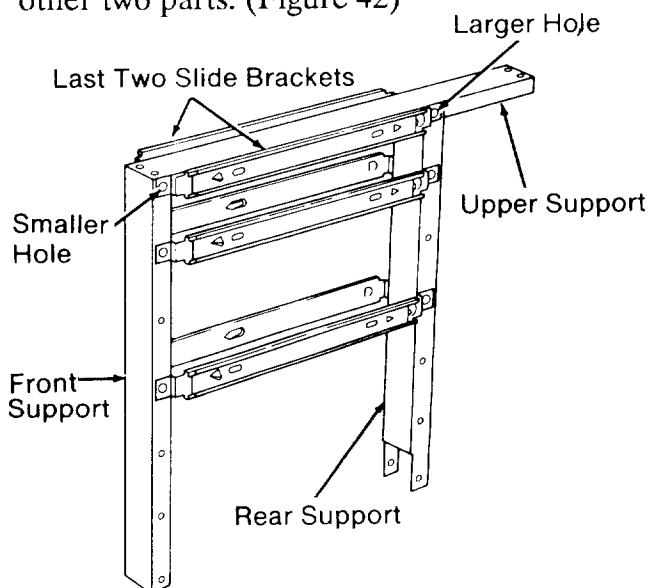

Fig. 42
30. Put the *upper support* in place between the *rear* and *front supports*. Make sure that the *upper support* is inside the surfaces of the other two parts. (Figure 42)
31. Put the last two *slide brackets* in place on each side of the *front* and *rear supports*. Make sure that the larger holes in the *slide brackets* are in line with the *rear support*. (Figure 42)